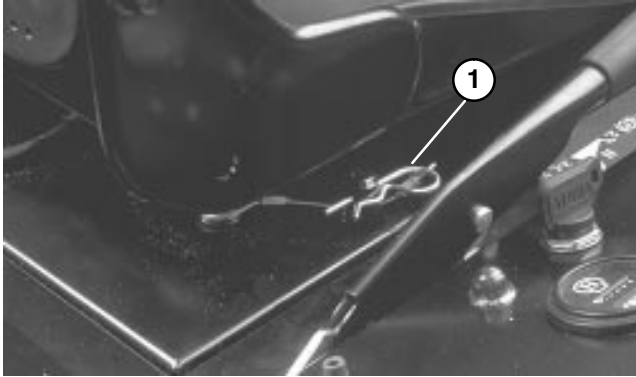

Figure 16
1. Remove retainer clip from seat lock rod (Fig. 16).